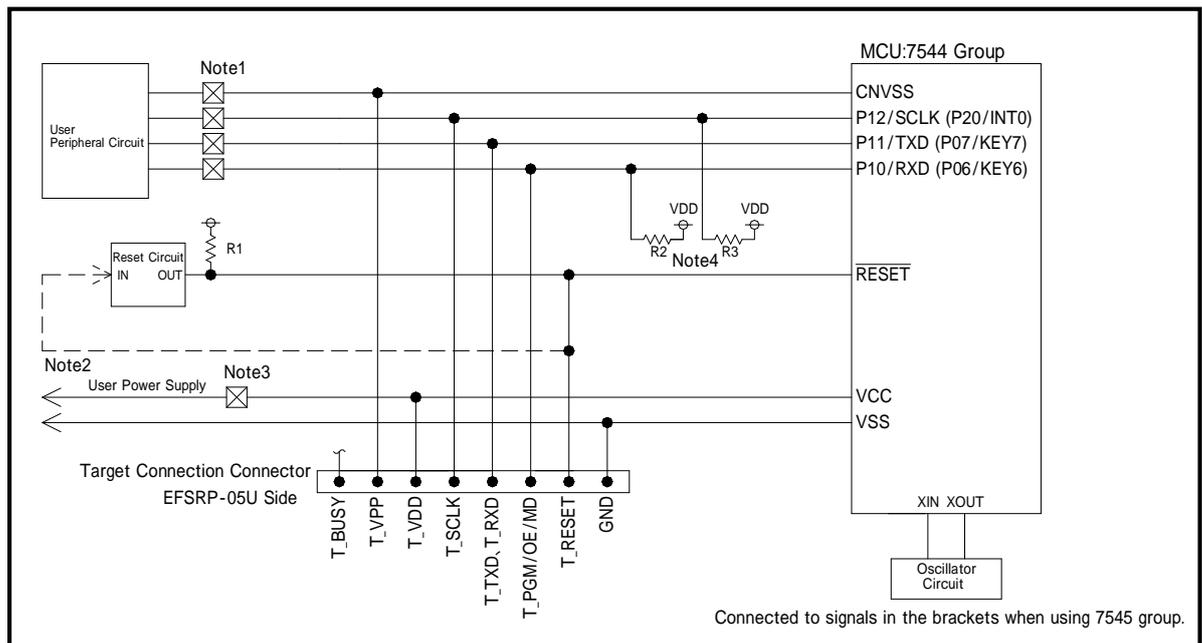

Fig 3.1 : Target MCU Peripheral Circuit Example
(1) Fig 3.1 shows an example of target MCU peripheral circuit when using 7544/7545g group